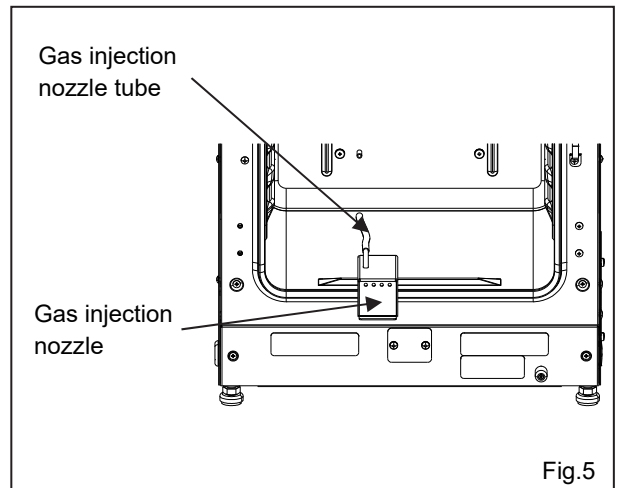

Fig.5
6. Pull out the gas injection nozzle and gas injection nozzle tube (Fig.5).